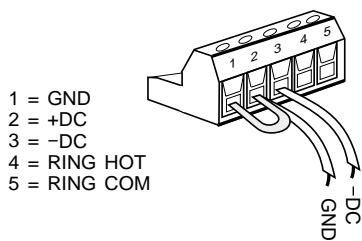

Figure 2 5-position terminal strip showing DC output connected for a positive ground scheme.
3.7 SELECTING THE DESIRED DC OUTPUT SCHEME As mentioned previously, the DC output is floating (isolated) in respect to earth ground. The DC output can be connected to the equipment to be powered in this manner, or it can be referenced to earth ground. In telecommunications applications it is typical to utilize a positive ground, with the DC output configured to be -48Vdc in respect to earth ground. This is easily accomplished by strapping terminal strip pin 1 (GND) to pin 2 (+DC) and using this combination as the ground connection to the load, shown in Figure 2. The -48Vdc is then connected from pin 3 (-DC) to the load. Note that pin 1 is internally connected to both the Model 703 chassis and the safety ground wire of the power cord.